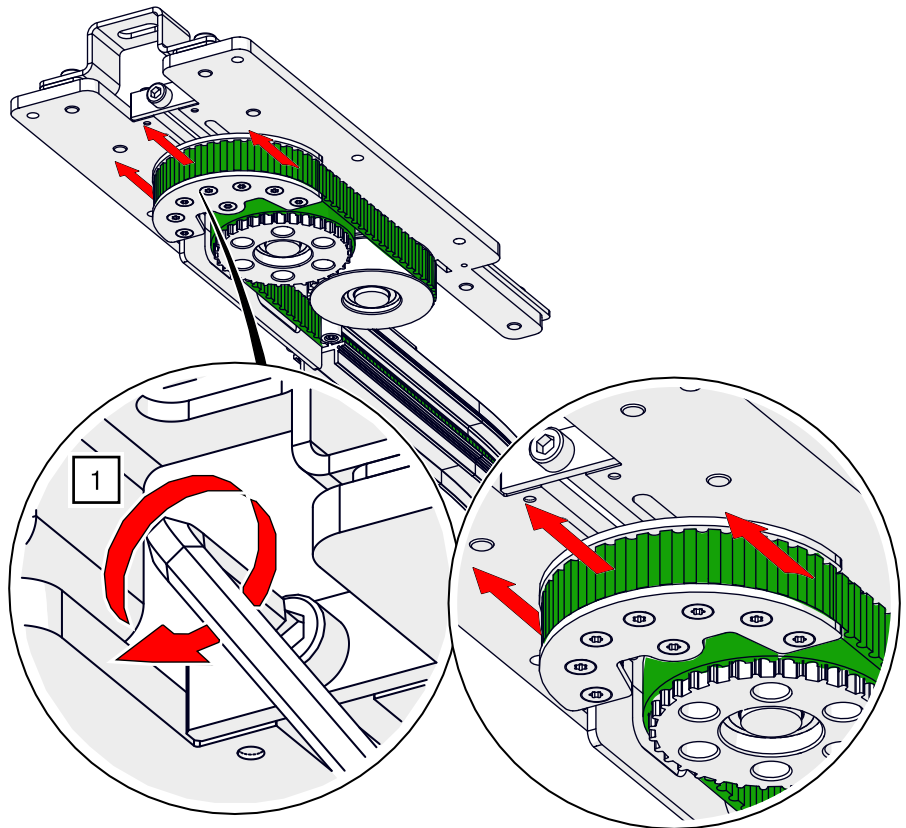

Fig. 86: Timing belt installation – Tension timing belt on the motor unit
1. Move the slide by turning the threaded screw with an Allen key AF 8 (see Fig. 86).